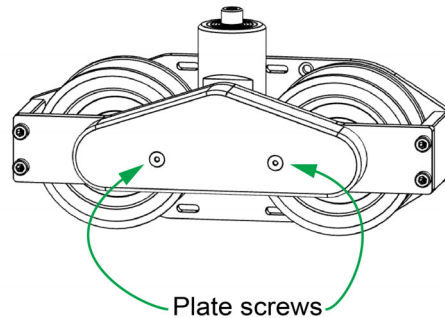

Figure 19 - Attaching the Drive Wheel Plate Screws
- Use a 3 mm hexagonal wrench to attach the two screws on the drive cover wheel plate, as shown in **Figure 19**.